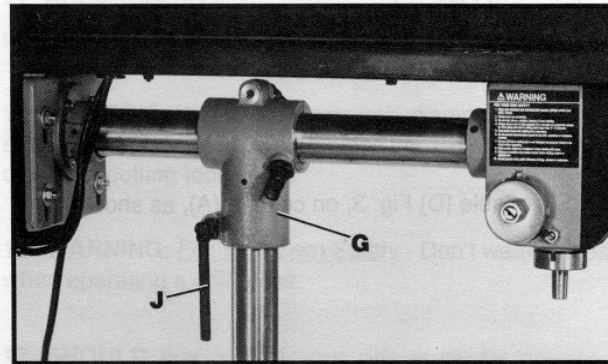

Fig. 6
5. Thread lock handle (J) Fig. 6, into threaded hole in rear of T-bracket (G) as shown. Align drill press spindle with table and base and tighten lock handle (J). **NOTE:** The lock handle (J) with the longest handle is used with the T-bracket.